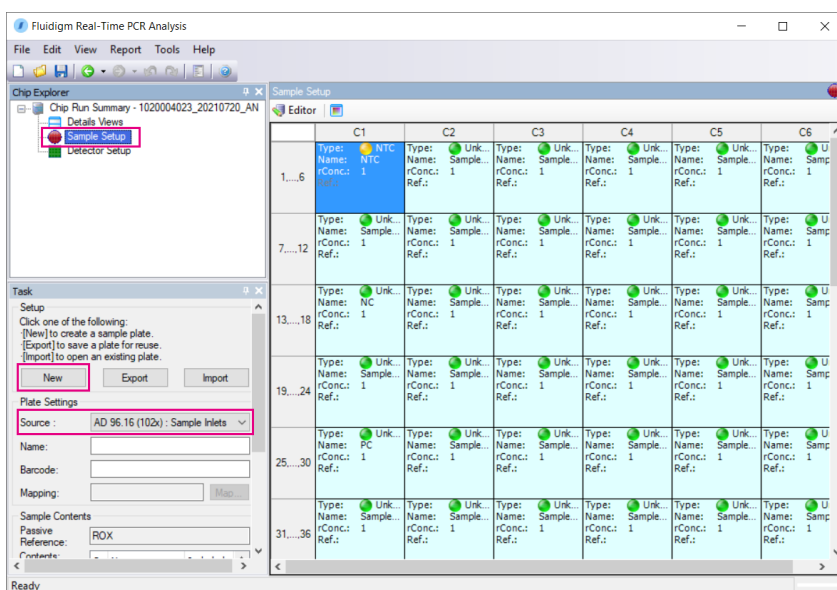

Figure 17. Sample Setup pane
- 5 (Optional) Click **Analysis Parameters** and change the default settings (Figure 17):